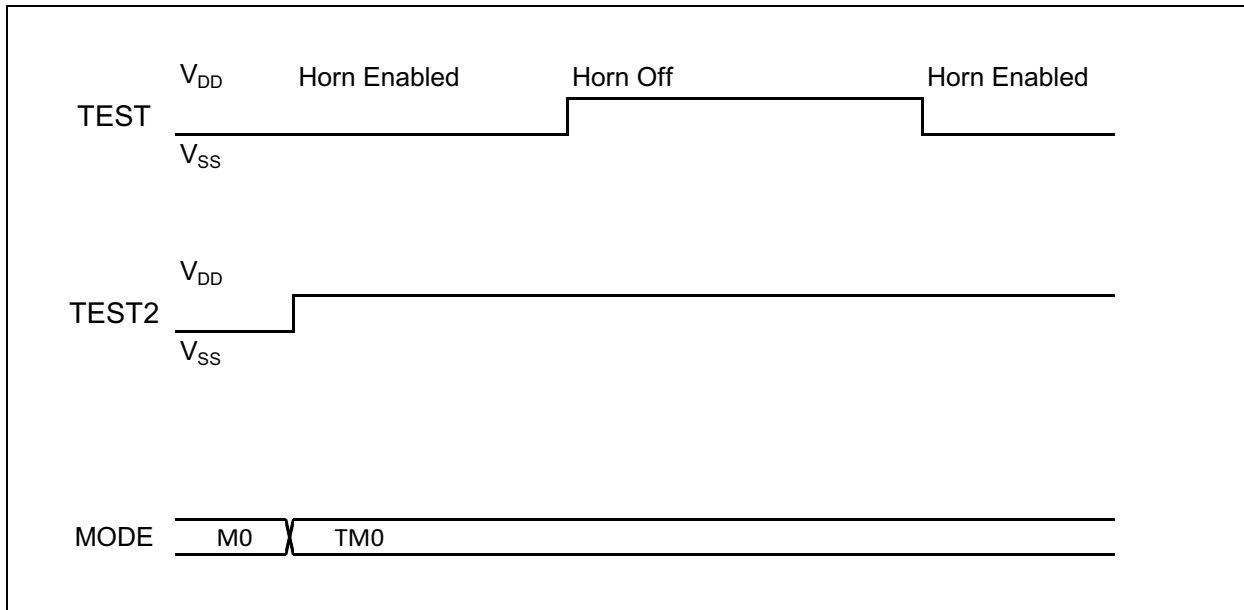

FIGURE 4-1: Timing Diagram for Horn Test in Mode TM0.
1. Power-up with the bias condition shown in Figure 4-1 to enter M0. At power-up, TEST, I/O, FEED and TEST2 should be tied to V_{SS} .
1. Power-up with the bias condition shown in Figure 4-1 to enter M0. At power-up, the four input pins TEST, I/O, FEED and TEST2 should be tied to V_{SS} . TESTOUT is the serial output.